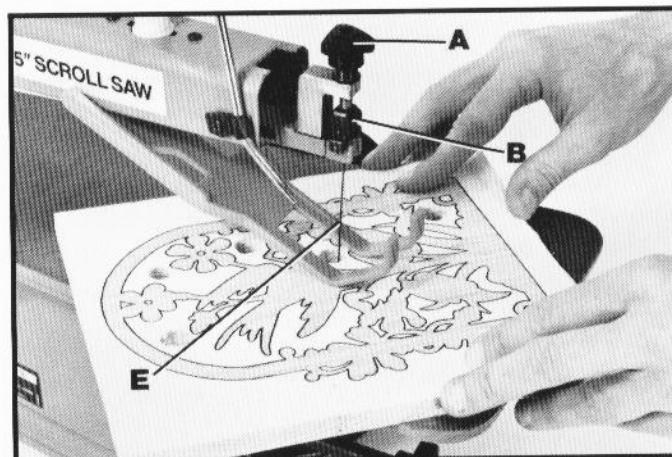

Fig. 37
5. Reassemble the blade (E) Fig. 37, into upper blade holder (B). Loosen blade holder locking knob (A), adjust blade tension and proceed to make the inside cut, as shown in Fig. 37.